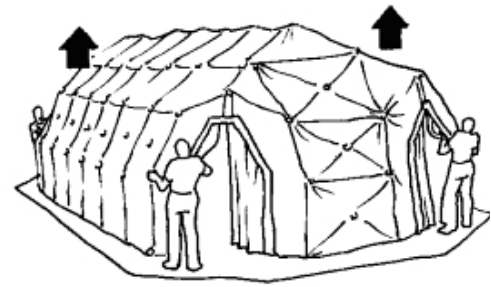

Figure 2-9 - Shelter in Erected Position
7. The Shelter should be properly positioned on the ground cover when fully erect as shown in Figure 2-9.